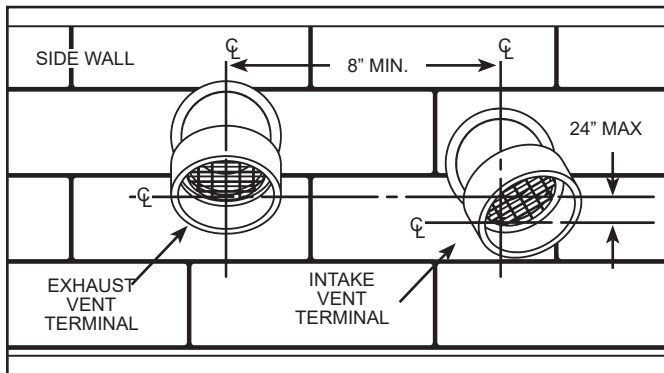

Figure 19.
**Important:** When terminating the vent on a side wall, the following specifications pertaining to terminal location must be followed (see Figure 19).
4. To avoid exhaust recirculation, the air intake terminal may be rotated away from the exhaust vent terminal (see Figure 19).